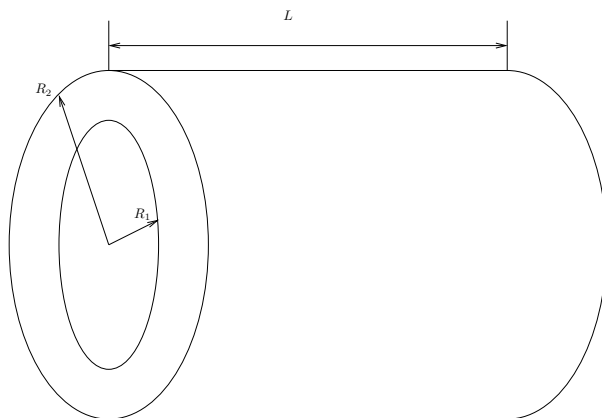

Figure 1: Hollow Cylinder
1. Derive an expression for the moment of inertia,  $J$ , for the hollow cylinder shown in Figure 1. The expression you must obtain is a function of the inner and outer radii and the length of this cylinder.